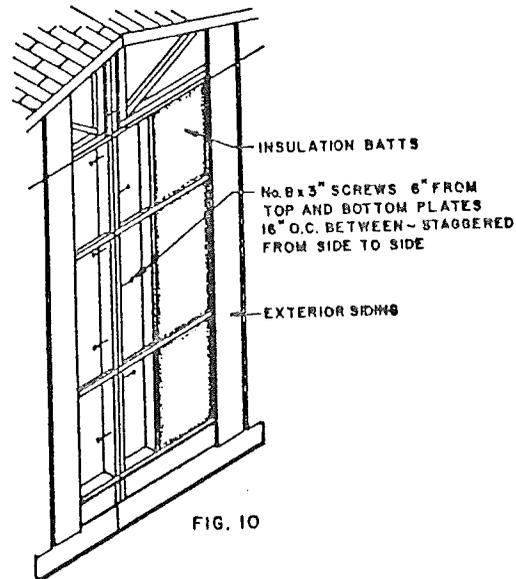
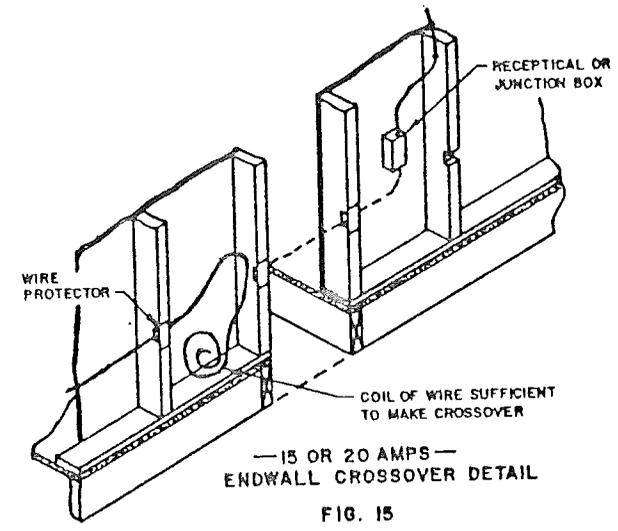

FIG. 10
FIG. 15
5. Secure the end walls with #8x3" screws (see fig. 10). Again, be sure that the insulation strip is in place.
2. Before installing end wall closure materials, make all electrical crossovers as shown in figs. 15 and 16. Insert fiberglass batts in any open stud cavities. Close the front and rear walls with the provided materials using the existing siding as a guide. On units that have a bottom starter, it should be installed before the vertical siding. On units with wood or hardboard siding, all seams shall be sealed and/or caulked. See fig. 10.